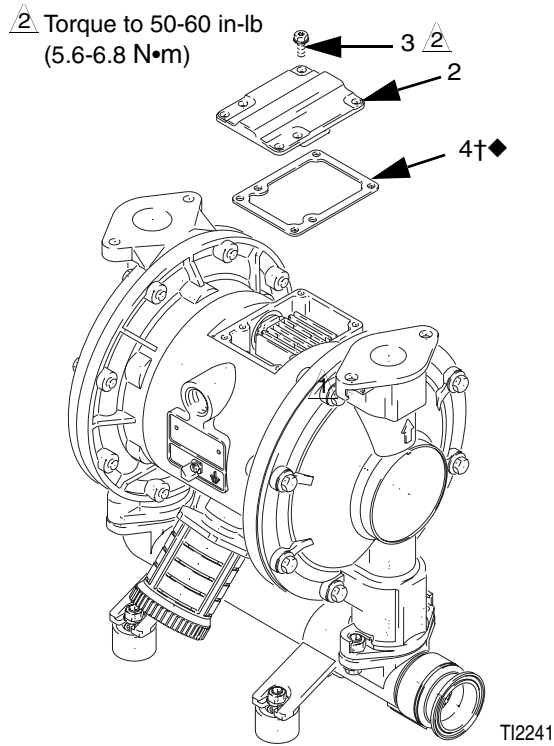

FIG. 5
2. With a Torx (T20) screwdriver or 7 mm (9/32 in.) socket wrench, remove the six screws (3), air valve cover (2), and gasket (4†◆). See FIG. 5.
10. Align the valve gasket (4†◆) and cover (2) with the six holes in the center housing (1). Secure with six screws (3), using a Torx (T20) screwdriver or 7 mm (9/32 in.) socket wrench. Torque to 50-60 in-lb (5.6-6.8 N•m). See FIG. 5.